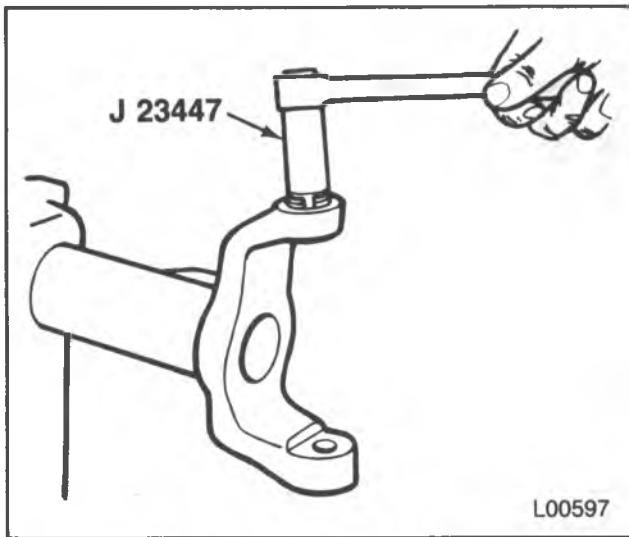

Figure 60 — Tightening the Adjusting Ring
4. Spindle (265) from the steering knuckle (274).
5. Tie rod from the steering arm (297).
6. Nuts (295) and adapters (296).
7. Steering arm (297) from the steering knuckle (274).
8. Cotter pin (298) nuts (292 and 299).
NOTICE: Do not remove the adjusting ring (300) unless new ball joints are being installed. If it is necessary to loosen the ring to remove the knuckle, do not loosen it more than two threads. Use J 23447 (figure 60). The nonhardened
- Nut (292) to 40 N·m (30 ft. lbs.).
- Push up on the steering knuckle [to keep the ball joint (293) from turning in the knuckle.
- Adjusting ring (300) to 70 N·m (50 ft. lbs.) using J 23447 (figure 60).
- Upper ball joint nut (299) to 135 N·m (100 ft. lbs.).
- Cotter pin (298).